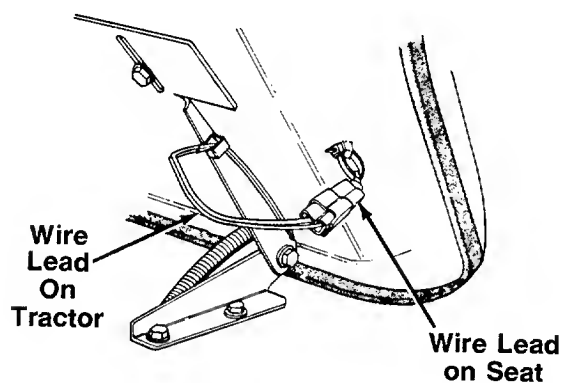

FIGURE 2.—Models 723, 733, 743 and 753 Shown
2. Plug the wire lead which is in the wire harness beneath the seat into the plug on the wire lead extending from the right hand side of the seat. On models 723, 733, 743 and 753, make certain to route the wire in front of the right hand seat bracket so the wire is not pinched when raising and lowering the seat. See figure 2.